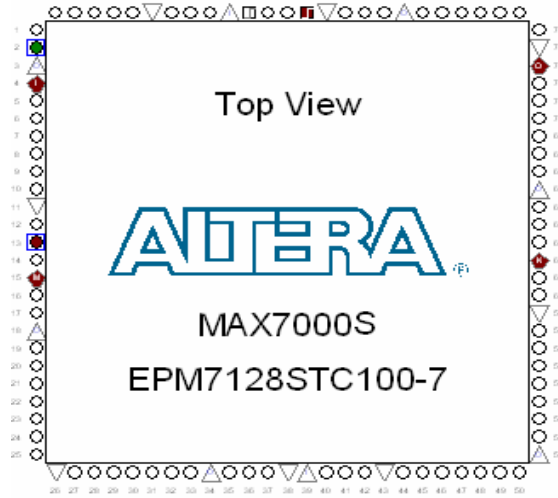

Figure 3.10: Top view of device pins.
13. After finish the Simulation, Pin Planner is selected. The popup window will appear as Figure 3.10 and Figure 3.11.